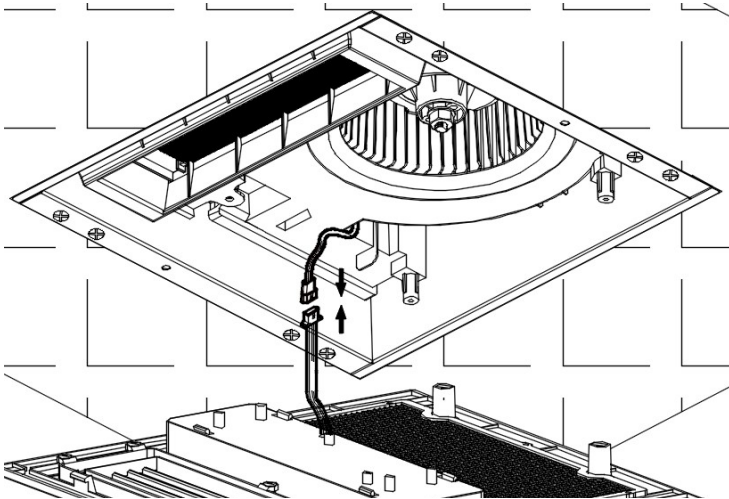

Fig.7.
8. Carefully connect the light wires. (See the Fig.7.)